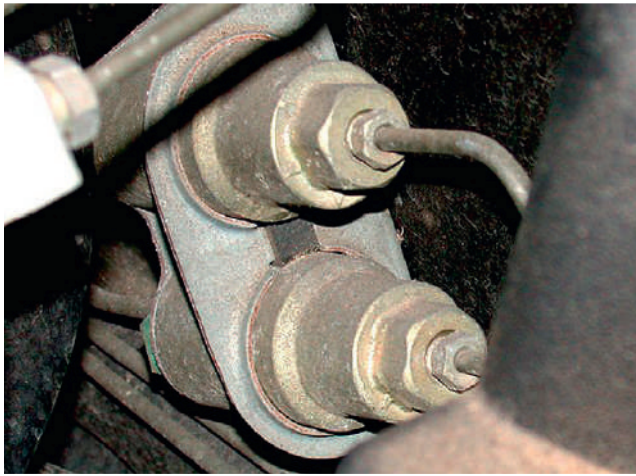

Figure 4.116 Electronic control unit for the brakes
- pressure-conscious regulator (Fig. 4.116)